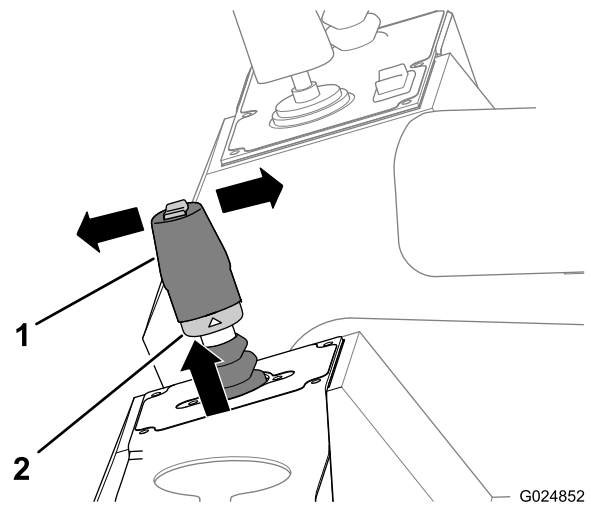

Figure 47
2. Lift up on the lock ring that is at the bottom of the joystick handle (Figure 47).
- Move the lever forward (toward the front of the machine) to move the machine forward (Figure 47).
- Move the lever rearward (toward the rear of the machine) to move the machine in reverse (Figure 47).
4. Release the lock ring and the lever (Figure 47).
5. Return the lever to the Neutral position to stop the machine (Figure 47).